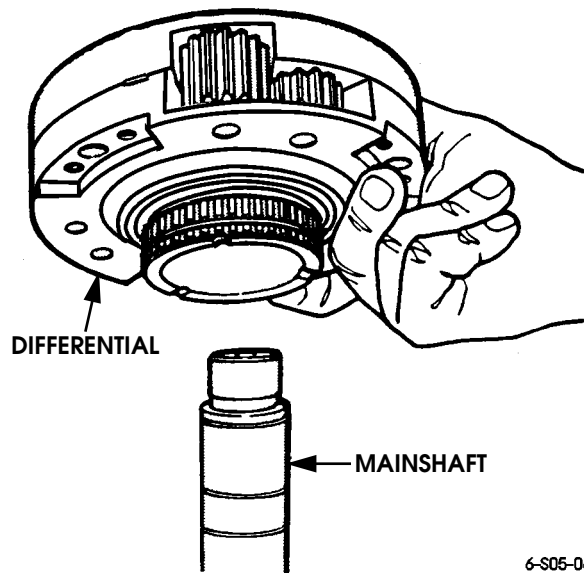

Figure 5-147: Installing Differential On Mainshaft
11. Install differential on mainshaft. Verify that needle roller bearings were not displaced before proceeding (Figure 5-147).